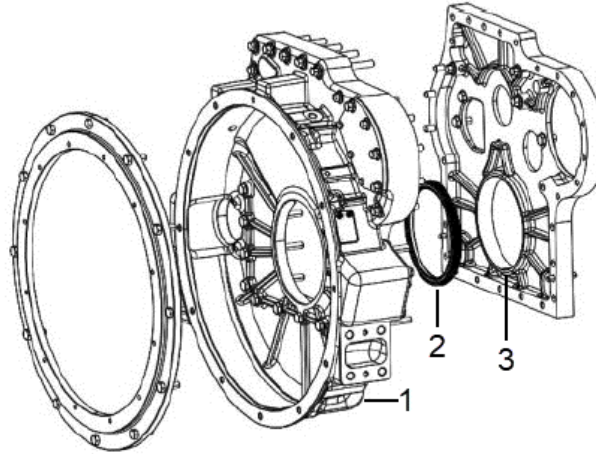

Figure 114.
2. Install the rear oil seal group on the flywheel housing (Figure 114).
5. Install the flywheel housing (Figure 114, Item 2) to the rear end of engine block by using the guide rods.